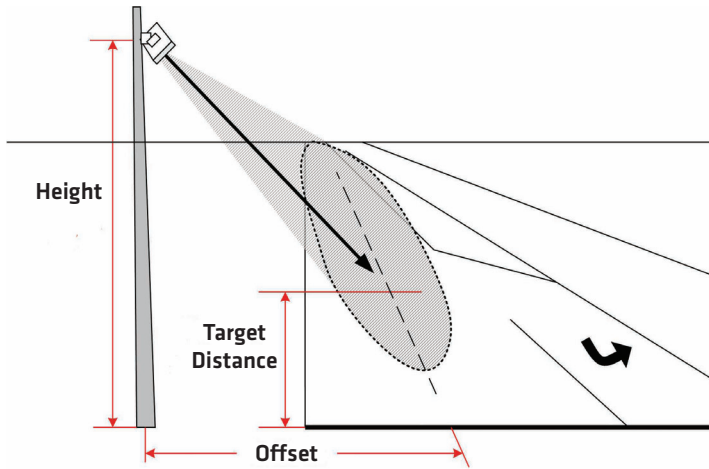

Figure 1.3 - Pointing the Sensor
- 1 Point the sensor towards the target on the road by tilting the sensor down and panning it to the left or right as necessary (see Figure 1.3). The target location is typically between 30 and 80 ft. (9.1 and 24.4 m) upstream from the sensor in the center of the lanes of interest. See Table 1.1 below to find the appropriate target distance.